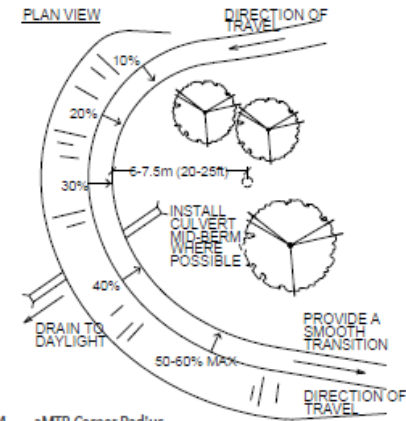

Figure 4 - aMTB Corner Radius
- aMTB cannot easily be pedaled mid turn; berm exit needs to be lower than the entry (Refer to Figure 4).
- Any radius less than 4.6m (15ft) will require higher level of rider ability, and/or result in 2-point turns (Refer to Figure 4).